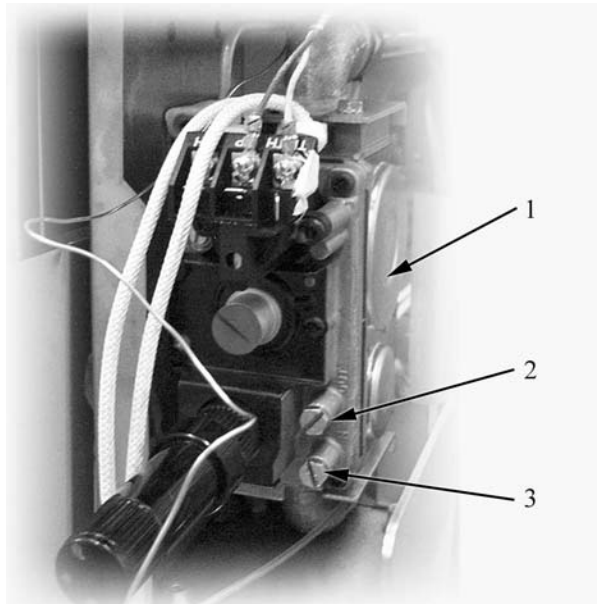

Fig. 5
- Unscrew the screw (pos. 3 in Fig. 5) on the pressure test point;
- Replace the screw (pos. 3 in Fig. 5) and check there are no leaks.